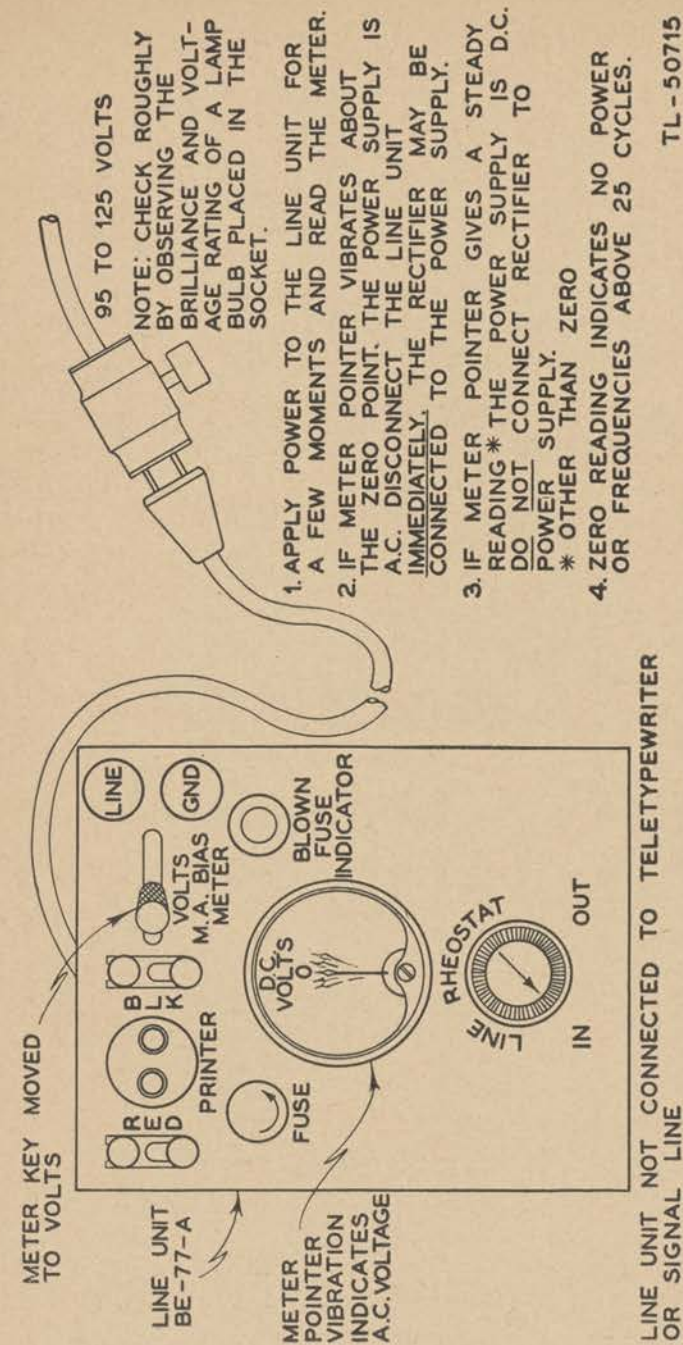

Figure 3. Power source frequency check.
d. Power source test. If doubt exists as to whether the power source is alternating or direct current, check it with the d-c voltmeter on the line unit. Low-frequency a-c voltage will give a very small vibrating or jiggling indication on the d-c voltmeter. The voltage of a 55 to 65 cycles alternating current causes the meter needle to move slightly to one side and then return to zero. Jiggling of needle will not be noticeable at these frequencies. D-c voltage gives a steady reading (other than zero). Figure 3 shows in detail how to make this test.